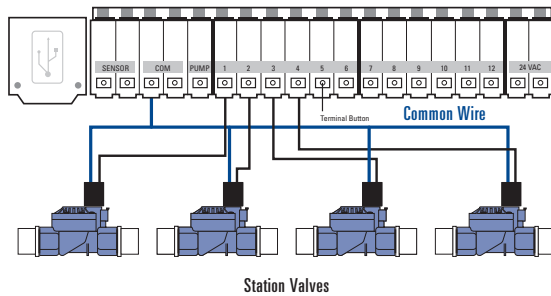

Figure 5: Connecting Sprinkler Wire
- Connect one wire from each valve (it doesn't matter which wire) to a single "common" sprinkler wire. This is usually white. (See Figure 5)
- Determine which valve you want to connect to which station. Insert each sprinkler wire, excluding the "common" wire, into a separate station socket (numbered above each socket) by inserting the bare wire fully into the socket under each number. (See Figure 5)